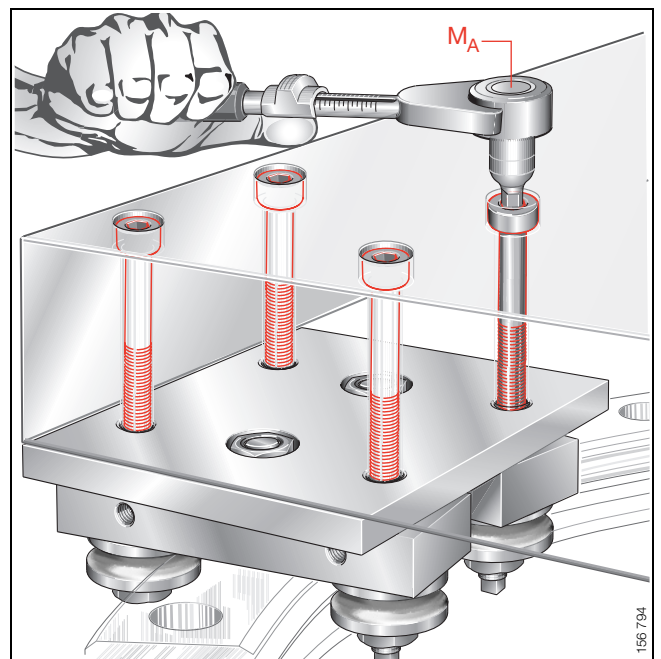

Figure 6 · Screw mounting the carriage on the adjacent construction
■ Screw the carriage to the adjacent construction (Figure 6).